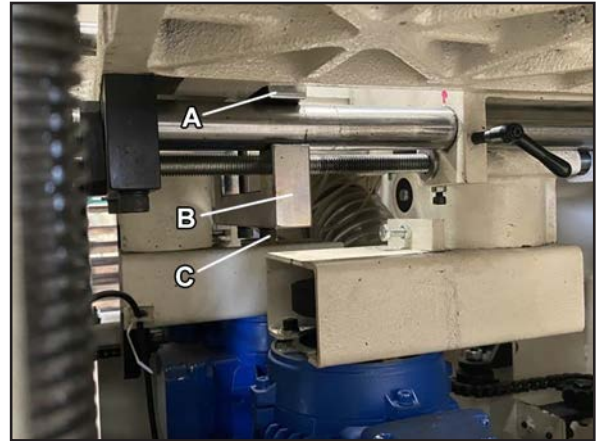

**Figure 48.** Workpiece bridge installed (shown from below).
- a. To remove the bridge, remove the cap screws (C) shown in **Figure 48**, then remove the workpiece bridge (A) and the fixing base (B).